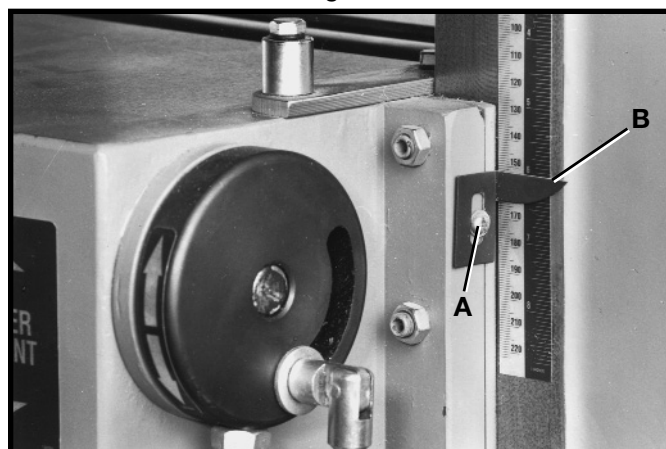

Fig. 53
- Measure the thickness of the planed end of the stock as shown in Fig. 52. If an adjustment is necessary, loosen screw (A) Fig. 53, adjust pointer (B) and retighten screw (A).